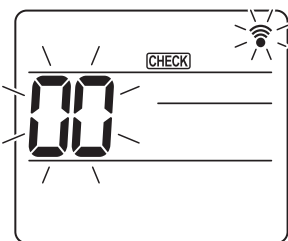
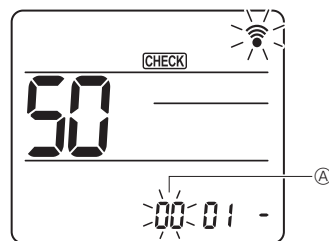
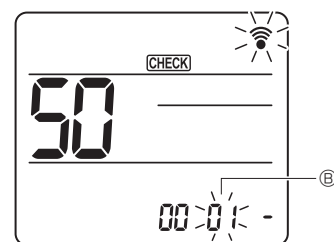
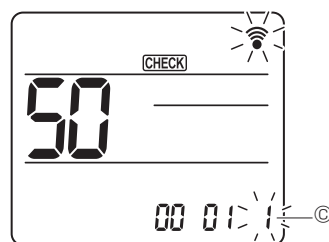

Fig. 7-16
Fig. 7-17
Fig. 7-18
Fig. 7-19
7.4.2. By wireless remote controller (Fig. 7-16, Fig. 7-17, Fig. 7-18, Fig. 7-19)
- ① Going to the function select mode
- [CHECK] is lighted and "00" blinks. (Fig. 7-16)
- ② Setting the unit number
- Press the [0] button to set unit number ①. (Fig. 7-17)
- ③ Select a mode
- Press the [7] button to set Mode number ②. (Fig. 7-18)
- ④ Selecting the setting number
- Use the [0] button to change the Setting number ③. (Fig. 7-19)
- ⑤ To select multiple functions continuously
- Repeat select ③ and ④ to change multiple function settings continuously.
- ⑥ Complete function selection